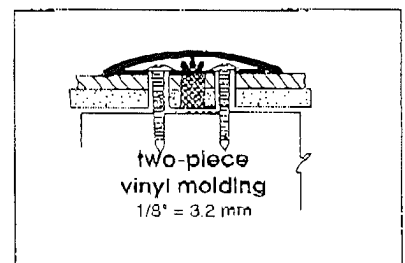

Figure 5
- Two-piece molding or heavy-duty batten strip and corners are available for non-standard thicknesses (Figure 5). See your FRP panel distributor for availability.